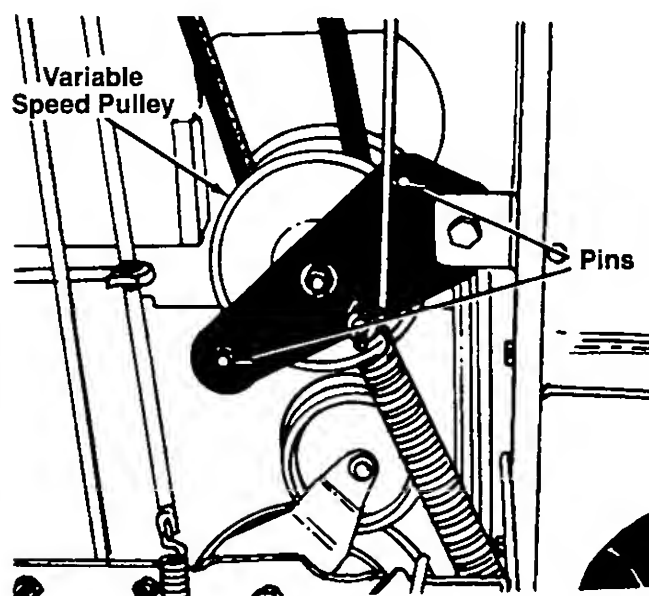

FIGURE 23.
**NOTE:** When reassembling, make certain belt is inside the pins. See figure 23.